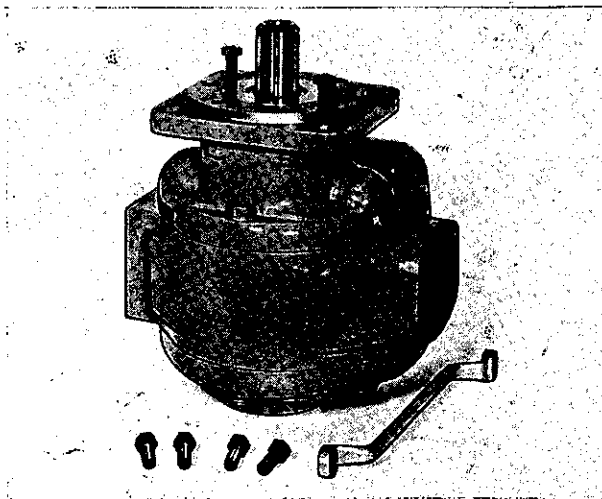

Figure 4
3. Remove seal retainer, seal assembly, coil spring, seal drive pin and washer. Use cap screws (see Figure 4) to start removal. NOTE: See Page 53, Figure 18 for sequence of removal.